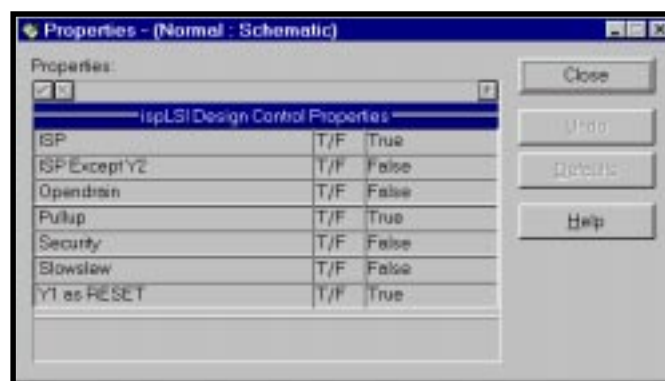
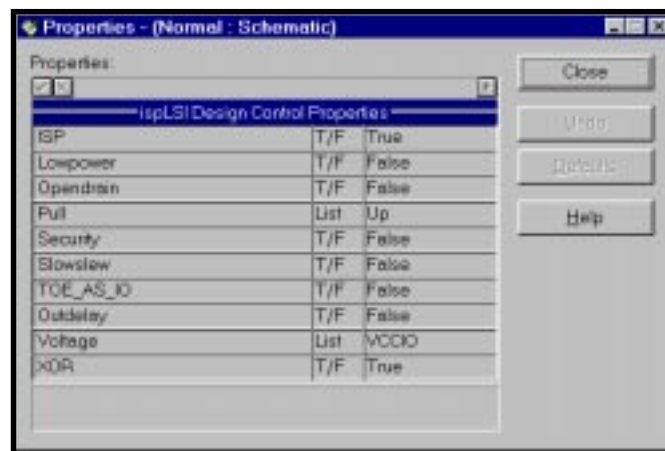
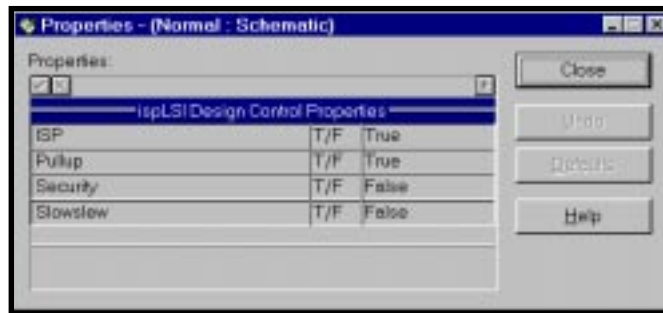
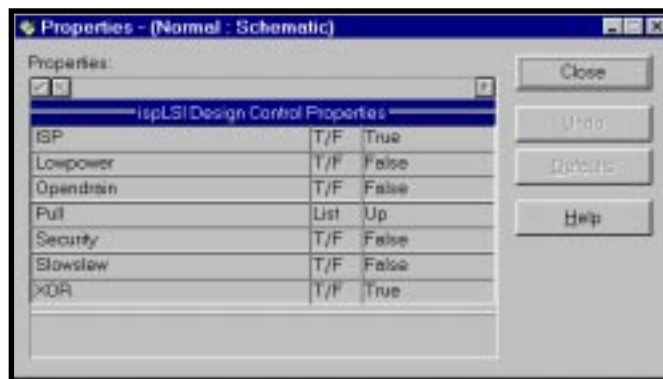

Figure 3-13. Compile Schematic Properties Dialog Box
Figure 3-14. ispLSI 5000V EDIF Netlist Properties Dialog Box
Figure 3-15. ispLSI 6000 EDIF Netlist Properties Dialog Box
Figure 3-16. ispLSI 8000 EDIF Netlist Properties Dialog Box
3. Select the Properties button at the bottom of the Project Navigator window. The Properties dialog box appears as shown in Figure 3-13, Figure 3-14, Figure 3-15, and Figure 3-16.